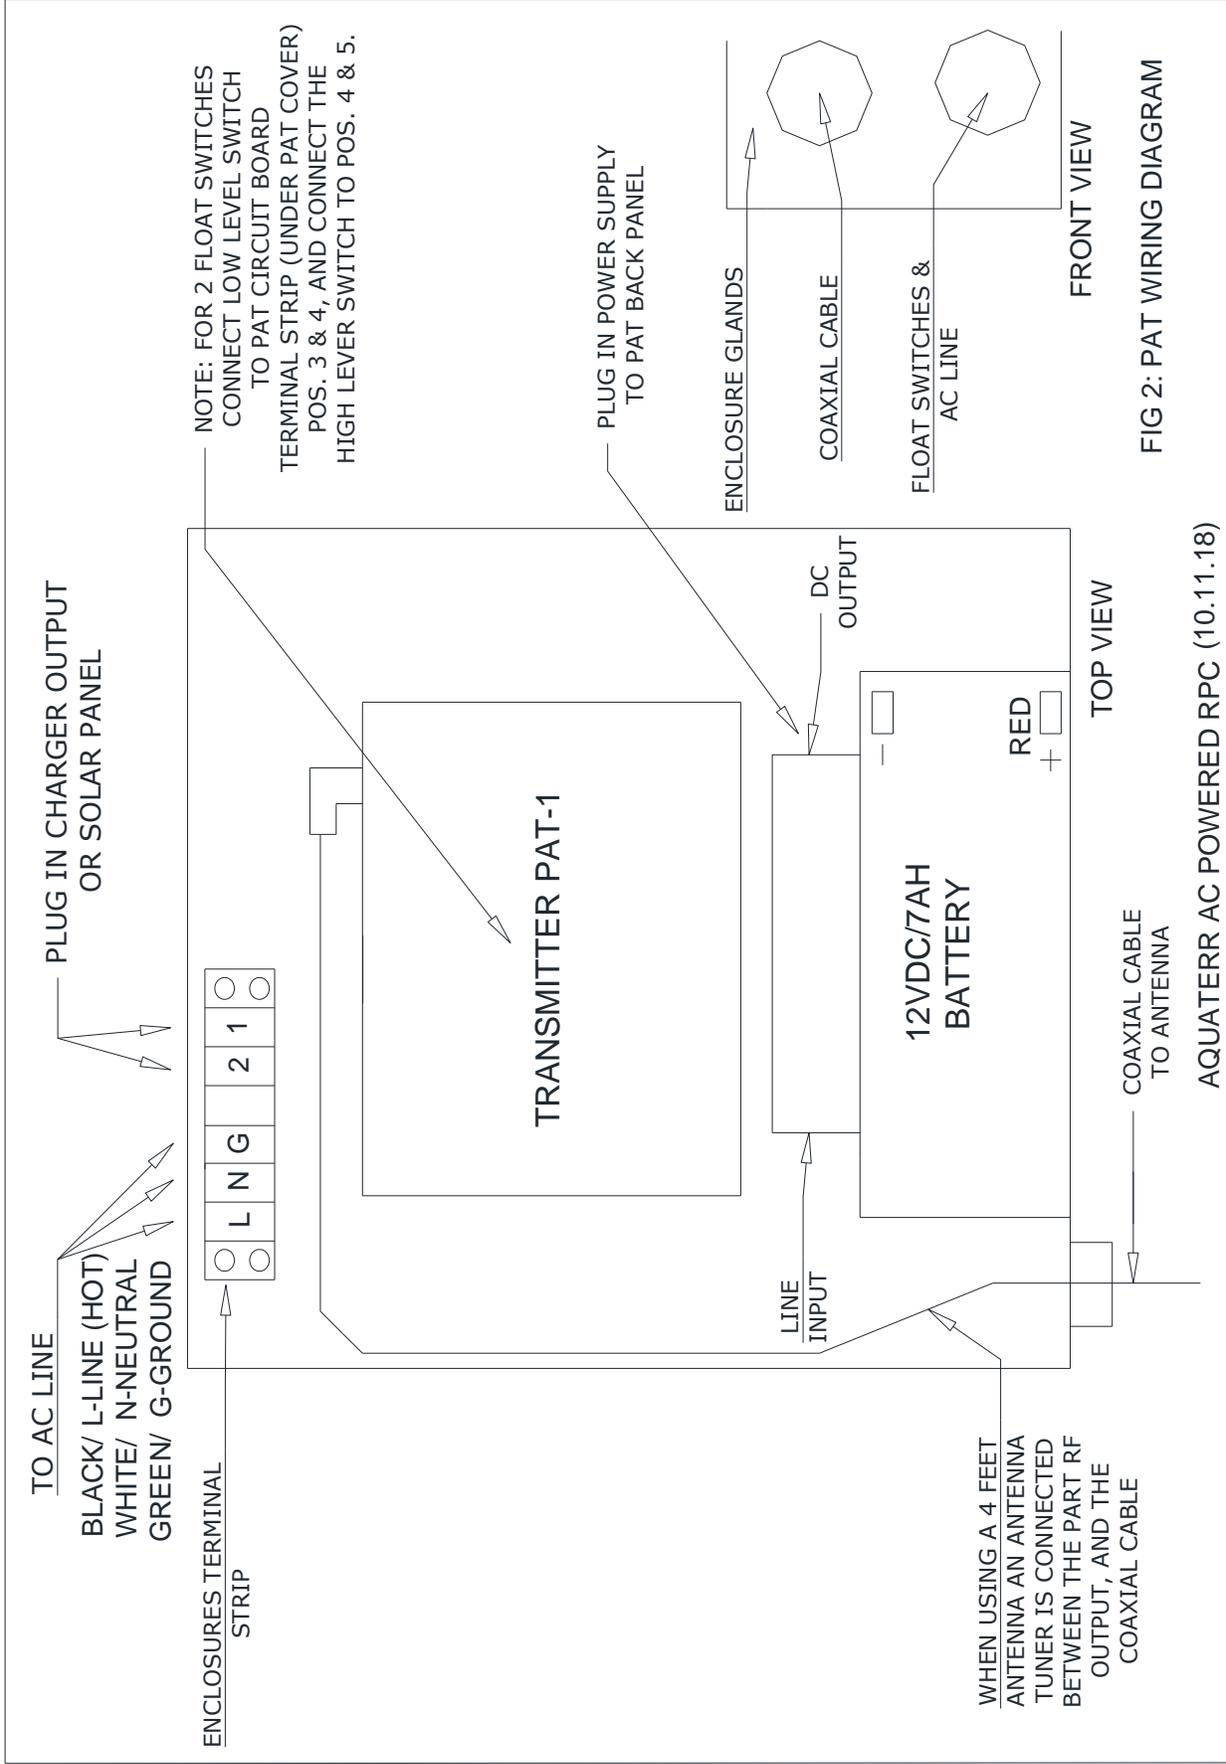

FIG 2: PAT WIRING DIAGRAM
5. **If your RPC kit is AC powered, connect the red wire to the batteries positive (+) terminal, then wire the line cord to the marked terminal strip terminals, as shown in Figure 2 and plug the power cables plug into a 120VC power outlet.**